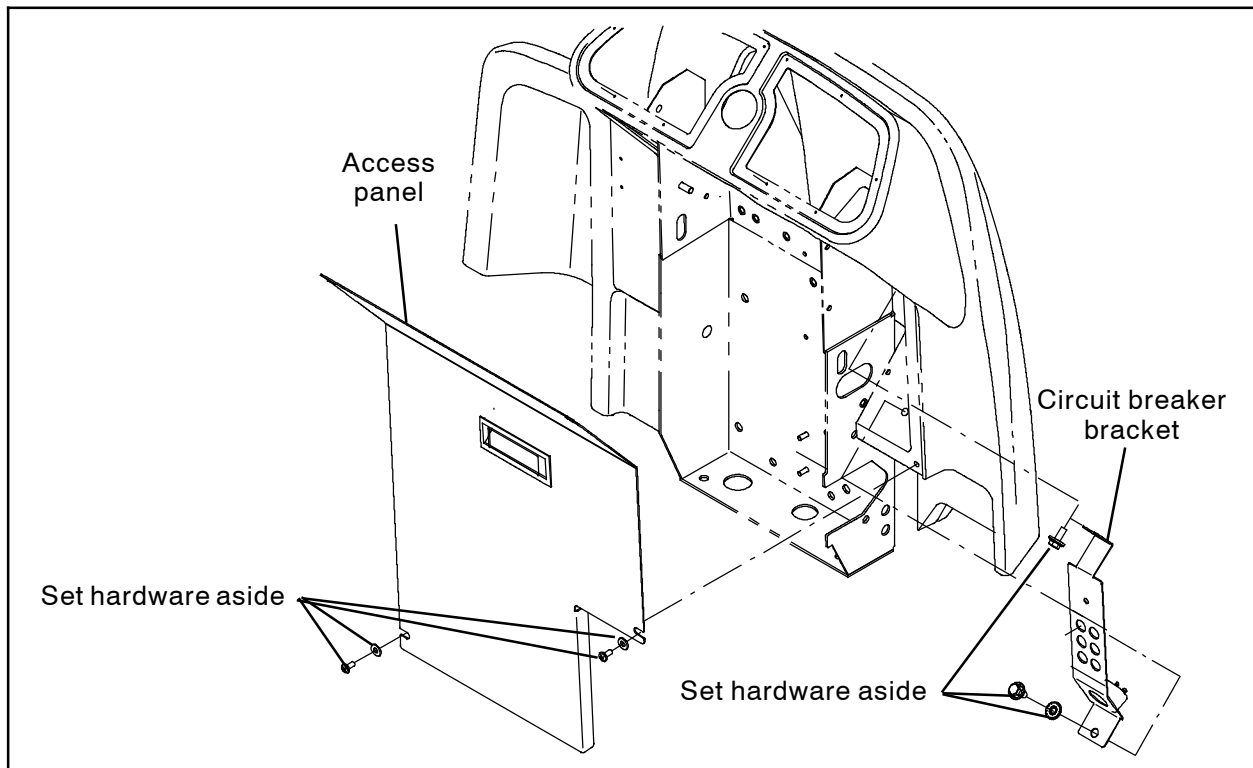

FIG. 14
19. Remove the access panel from the steering channel. Set the hardware aside. (Fig. 14)
20. Remove the M8 hex screws securing the circuit breaker bracket to the machine. Set the hardware aside. (Fig. 14)
21. Pull circuit breaker bracket out far enough to access the main wire harness connectors located behind the bracket. Do not break any connections to the other circuit breakers when pulling the bracket from the machine. (Fig. 14)
25. Reinstall the circuit breaker bracket onto the machine. (Fig. 14)
26. Reinstall the access panel onto the steering channel. (Fig. 14)